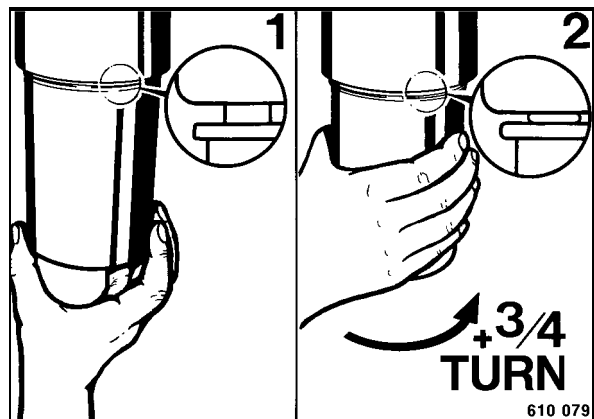

Fig. 97
- Screw the filter cartridges on by hand until the seal touches the filter head 1 (Fig. 97).
- Tighten for a 3/4 turn (2).